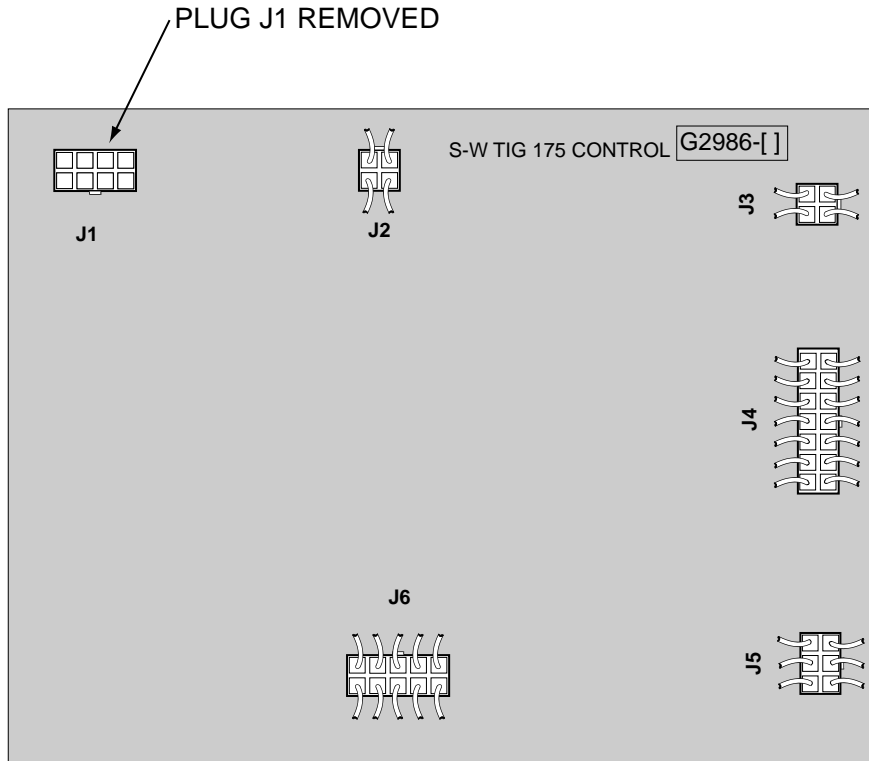

FIGURE F.9 PLUG J1 ON CONTROL BOARD
10. Remove plug J1 from the control board. (See **Figure F.9.**) Also remove plug and lead harness from internal divider panel.